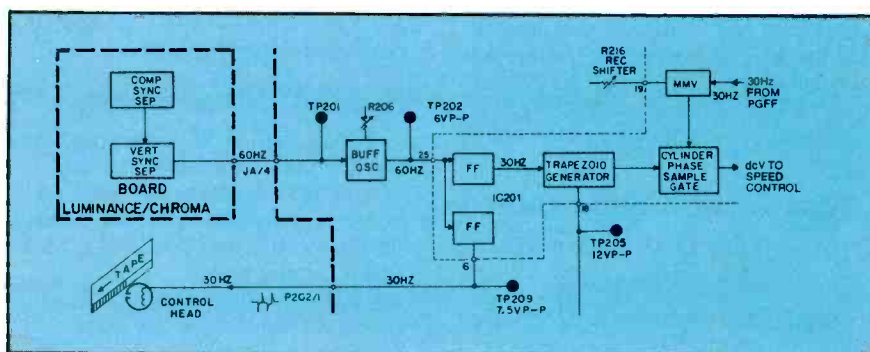
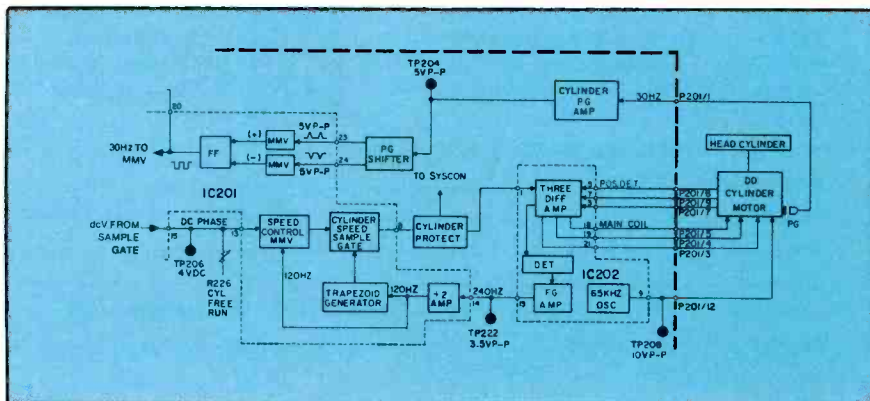

Figure 1. Recording cylinder-phase control
Figure 2. Recording cylinder-speed control
Figure 1 is a block diagram showing how composite sync is separated from the incoming composite video before filtering removes the horizontal sync. It leaves the vertical sync, which is sent to TP201 and where it becomes the input signal for a buffer-oscillator. The buffer-oscillator operates as a buffer when vertical sync is present to trigger it, but it becomes a 58Hz oscillator if the vertical-sync is missing. Therefore, one of the two possible signals is recorded on the control track during recording, and this prevents the servo from malfunctioning (as it would without a control-track signal).
Two permanent magnets are attached to the outer rotating shaft of the direct drive (DD) cylinder motor (Figure 2). Magnetic fields from these magnets induce positive and negative voltage pulses in a pulse-generator (PG) coil mounted on the motor's side. Because the motor rotates the head cylinder and its shaft at 1800RPM, the PG coil signal pulses have a repetition rate of 30Hz. The positive and negative pulses (after processing) will identify positions of the video heads accurately. The pulses are separated and applied to monostable multivibrators (MMV's). Positive and negative-going pulses from the MMV's trigger a flip-flop having precise 50 percent/50 percent duty-cycle square waves whose edges are accurately related to positions of the video heads. These high-accuracy square waves are applied to the input of another MMV (shown in Figure 1). Output of the MMV is differentiated to produce pulses that are the *feedback* signal at one input of the cylinder-phase sampling gate (Figure 1).
The other input of the cylinder-phase sampling gate is the so-called *trapezoidal* ramp signal from the standard signal mentioned previously and shown in Figure 1. Amplitude of the ramp is sampled by the feedback pulse, and the dc level at the *sampling point* is stored and held until updated (30 updates per second). Any shift of phase between the ramp and pulse will sample the ramp at a higher or lower dc voltage level, changing the stored voltage at TP206 and
phase sampling gate is applied to one input of the speed-control MMV (Figure 2). Square waves of 120Hz rep rate are applied to the other speed-control MMV input. These pulses originate from the DD cylinder-motor position-indicator coils, which provide a 65kHz signal that is modulated with 250Hz. Detection of the 65kHz signal from the *three-differential-amplifier* circuit yields